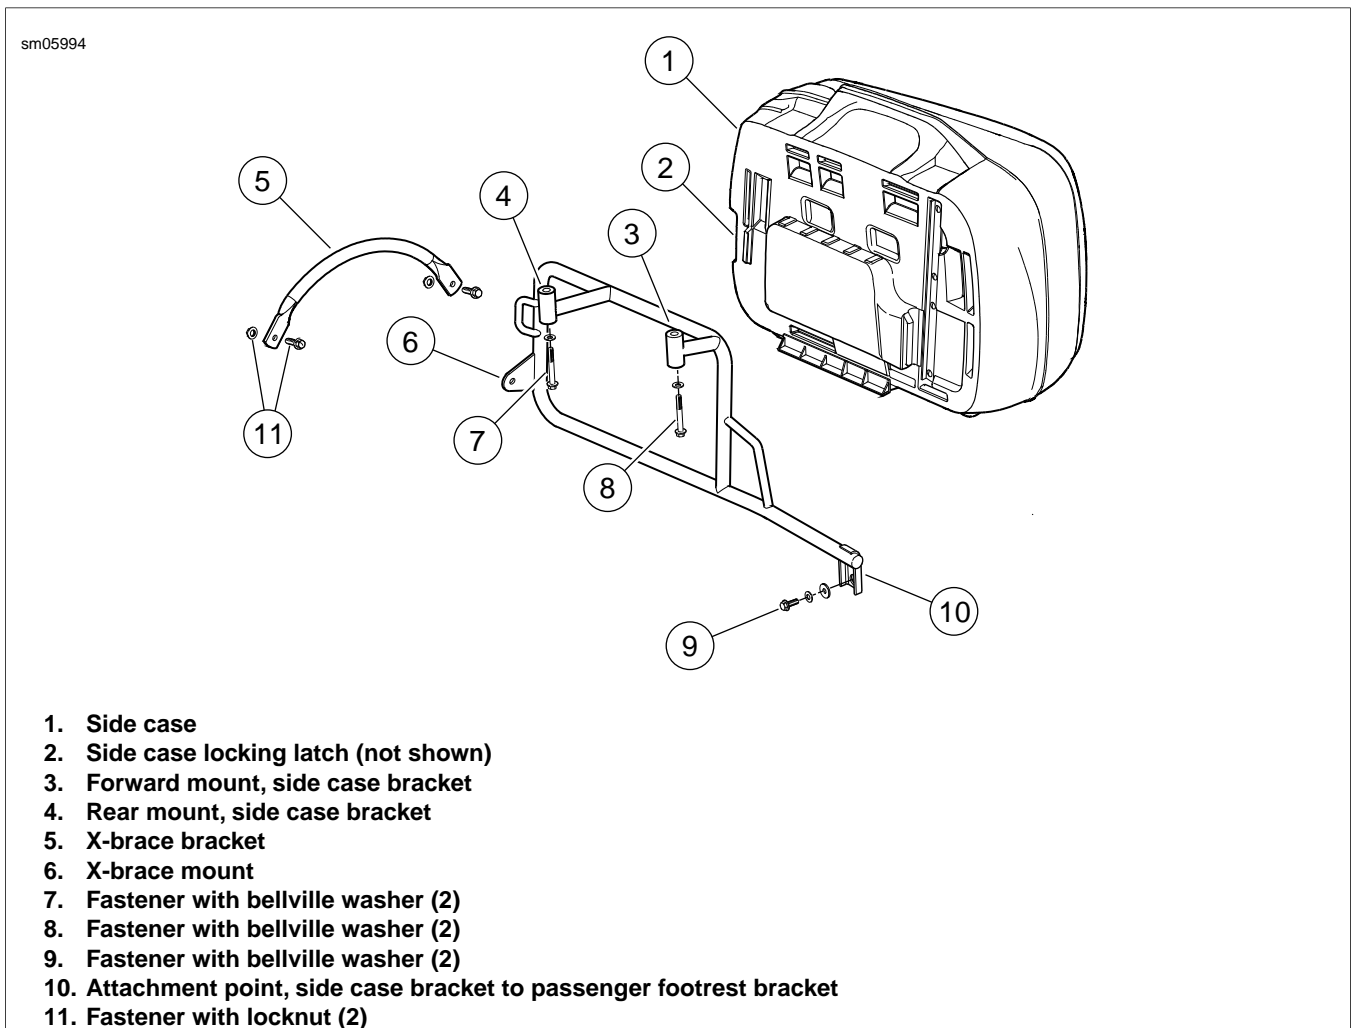

Figure 2-211. Side Case Assembly/XB12XP
- See Figure 2-211. Open side case locking latch (2), with key.
- Remove fastener (9) securing the side case bracket (10) to the back of the passenger footrest support bracket.
- Remove fastener and locknut (11) securing the X-brace bracket (5) to the side case bracket (6).
- Remove forward fastener (8) securing side case bracket (3) to trunk pan.
- Remove rear fastener (7) securing side case bracket (4) to trunk pan and remove bracket from vehicle.
1. See Figure 2-211. Install rear fastener (7) securing side case support bracket (4) to trunk pan attaching bracket to vehicle, snug only.
2. Install forward fastener (8) attaching side case bracket (3) to trunk pan, snug only.
3. Install fastener with locknut (11) attaching the X-brace bracket (5) to the side case bracket (6), snug only.
4. Install bolt (9) attaching side case bracket (10) to the back of the passenger footrest support bracket, snug only.